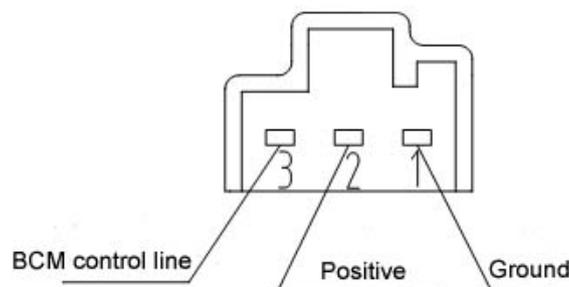

Fig. 4-88
(1) Check the conductivity of emergency light switch: The emergency light switch (electrical air conditioning controller) is installed onto the real vehicle, and then pressed, if the switch flashes, it is normally, if not, change the switch.
(2) Check the luminated light for emergency light switch: Connect the battery positive to terminal B5 of emergency switch, negative to terminal B15, and the luminated light should be lightened.
6. Check the rear roof light: When the switch is at OFF, terminals should be not conducted with each other, when the switch is at DOOR, terminals 2 and 3 should be conducted, when the switch is at ON, terminals 2 and 1 should be conducted, as shown in Fig. 4-88.